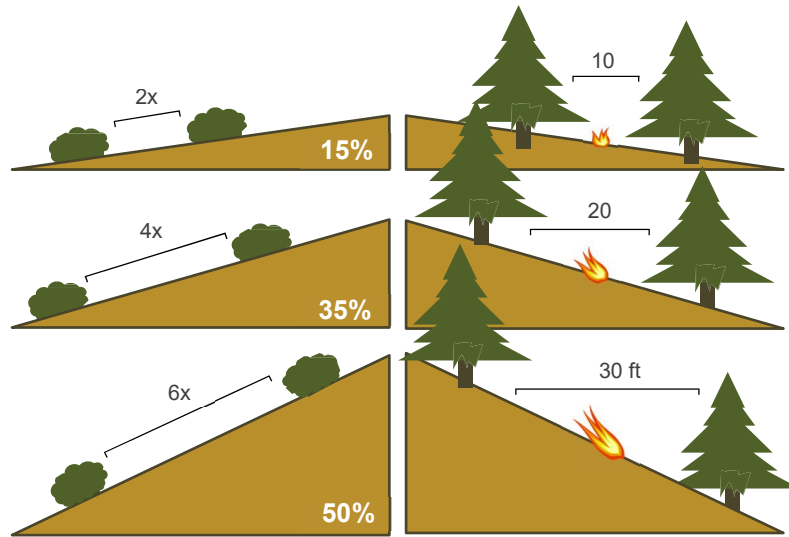

Figure 3. Slow the spread of fire by creating horizontal clearance. More space is needed for steeper slopes.
- Remove all dead shrubs; prune dead branches of live shrubs; and strategically remove shrubs to create adequate horizontal spacing (see Figure 3 below for spacing recommendations).
- Thin and limb trees to disrupt the horizontal continuity of fuels (see Figure 3 below for spacing recommendations). Note: removal of trees over 8" (measured at 4 ½' from the ground) is not an authorized treatment.